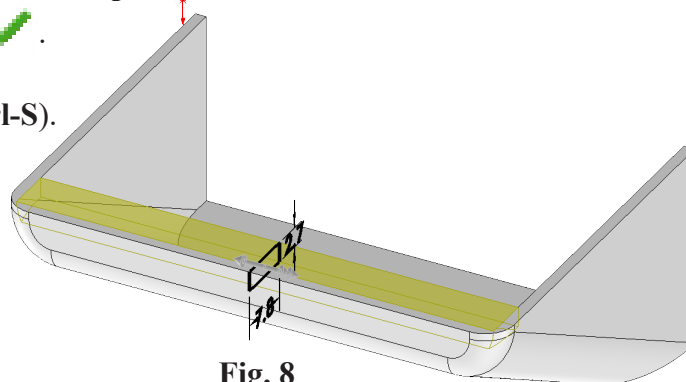

Fig. 8
Step 7. Rotate view to bottom, **Fig. 8**. To rotate view, click **Isometric**  on the Standard Views toolbar. (**Ctrl-7**), then **Shift click Z**